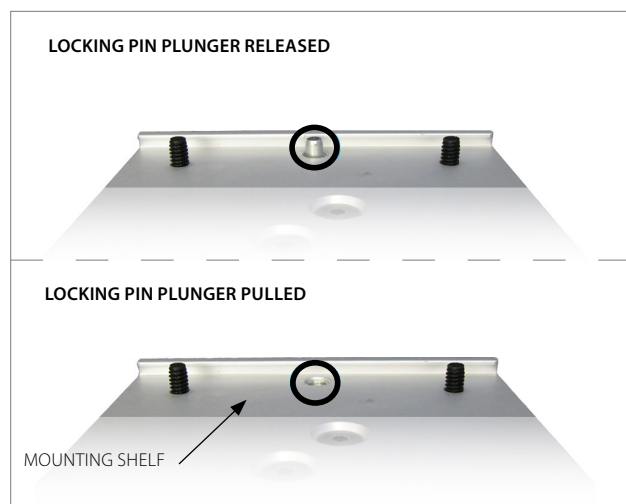

Figure 2
2. Loosen the 4x **PLASTIC SCREWS** on the bottom side of the **MOUNTING SHELF**. Pull down on the **LOCKING PIN** at the bottom of the **MOUNTING SHELF** and twist it to keep it open. Slide the **PM6000 MOUNTING PLATE** laterally onto the **MOUNTING SHELF** until the **LOCKING PIN** aligns with the clearance hole at the front of the **PM6000 MOUNTING PLATE** (Figure 2).